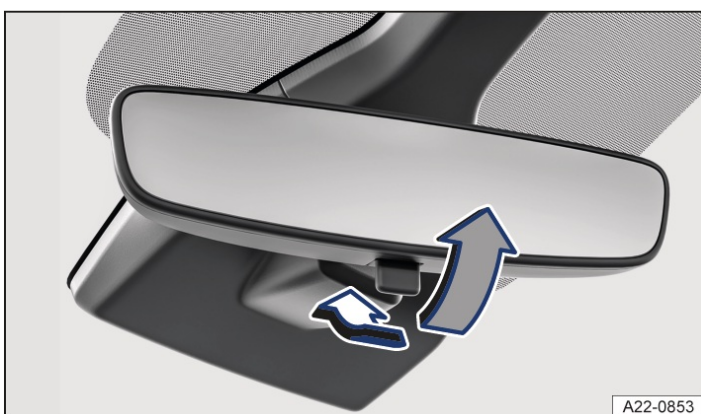

Fig. 2 On the windscreen: manual anti-dazzle interior mirror.
- Pull the lever back to select the anti-dazzle function → Fig. 2.